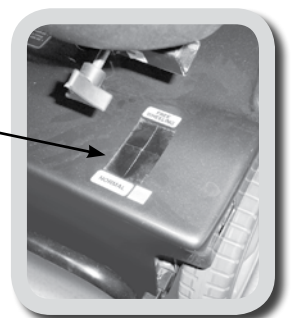

Figure 5
- All models are equipped with a Manual Brake Release Lever. To engage the "Freewheeling" mode, push the Brake Lever forward. The "Freewheeling" mode will allow you to push the unit, if necessary. To terminate the "Freewheeling" mode, pull the Brake Lever toward the rear of the Amigo (Figure 5). When pulled into "Normal," the vehicle will be back into "Drive" mode.
Manual Brake Lever (located on Rear Cover) – Figure 5